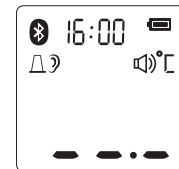
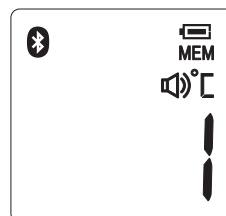

Figure 2
Figure 7
2. Press the *Test Button*, The display is activated to show all segments. After self-checking Figure 2 appears on the display screen with beeps, so you can start a new measurement. If error messages appears, it means the thermometer is not ready for measurement.
When the thermometer has been turned on and followed by Figure 2/4 or finished testing, press and hold the *Setting Button* for three seconds. The letter MEM will appear in the upper right corner of the display. (See Figure 7)